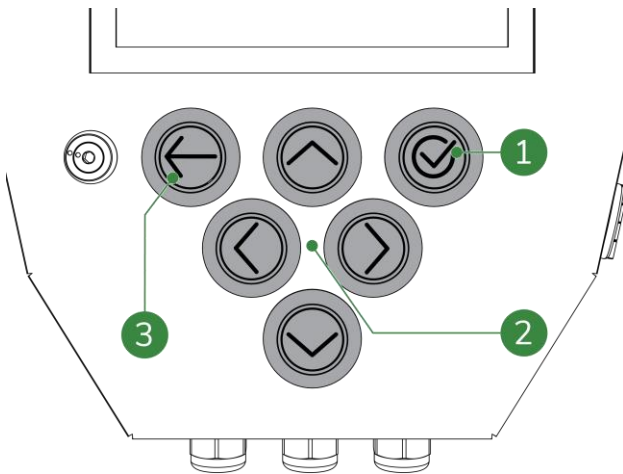
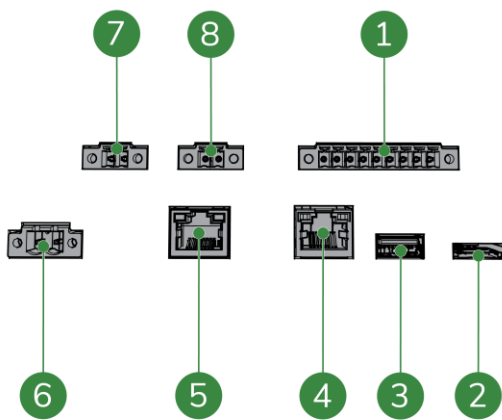
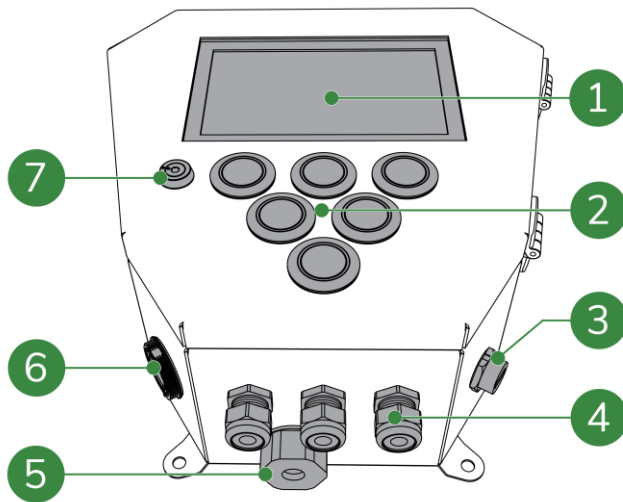

Figure 3-4: HMI control buttons
Figure 3-5: HMI internal connectors
Figure 3-7: Components HMI
The HMI (Figure 3-7) houses cable connections (Figure 3-5) and sensitive components on the inside. On the outside, the HMI has a display (Figure 3-7, pos. 1) and control buttons (Figure 3-4) for presenting and accessing measurements and configuration functionality.
- with a split cable gland for ethernet cable (Figure 3-7, pos. 5)
- with a cable gland (3x) (Figure 3-7, pos. 6).